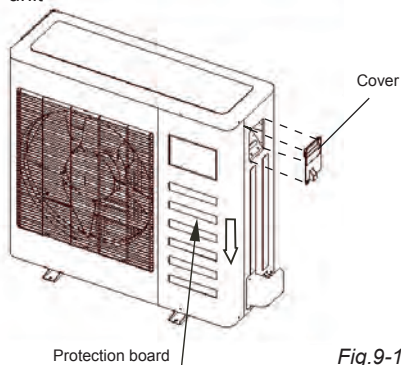

Fig.9-1
- Disassemble the bolts from the cover.(If there isn't a cover on the outdoor unit, disassemble the bolts from the maintenance board, and pull it in the direction of the arrow to remove the protection board.) (Refer to Fig.9-1, Fig.9-2, Fig.9-3)